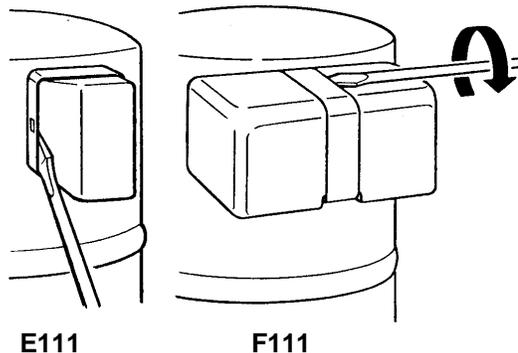

Figure 29. Compressor Terminal Cover
2. For the E111, remove the compressor terminal cover by inserting a standard screwdriver between the terminal cover and compressor cover frame: then, gently pry off from the right side, then the left. For the F111, insert a screwdriver between the retainer clip and cover, then twist. (Figure 29).